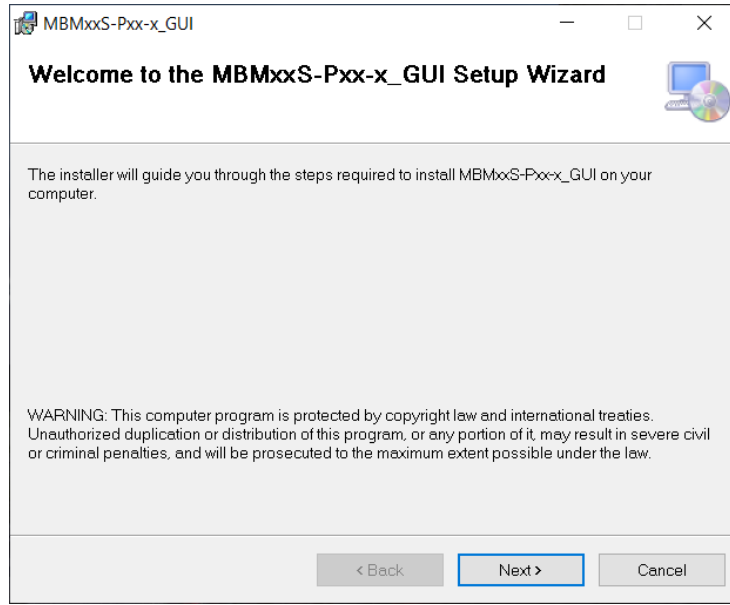

Figure 20: MBMxxS-P100-x GUI Set-Up Guide
2. Double click the “.msi” file to open the set-up guide (see Figure 20).